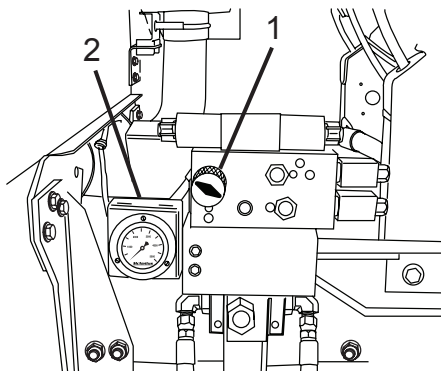

Figure 85
- Once the pressure requirements have been determined, use the PRV knob (Figure 85, Item 1) to adjust the valve to the required pressure. Pressure will be displayed on the gauge (Figure 85, Item 2).